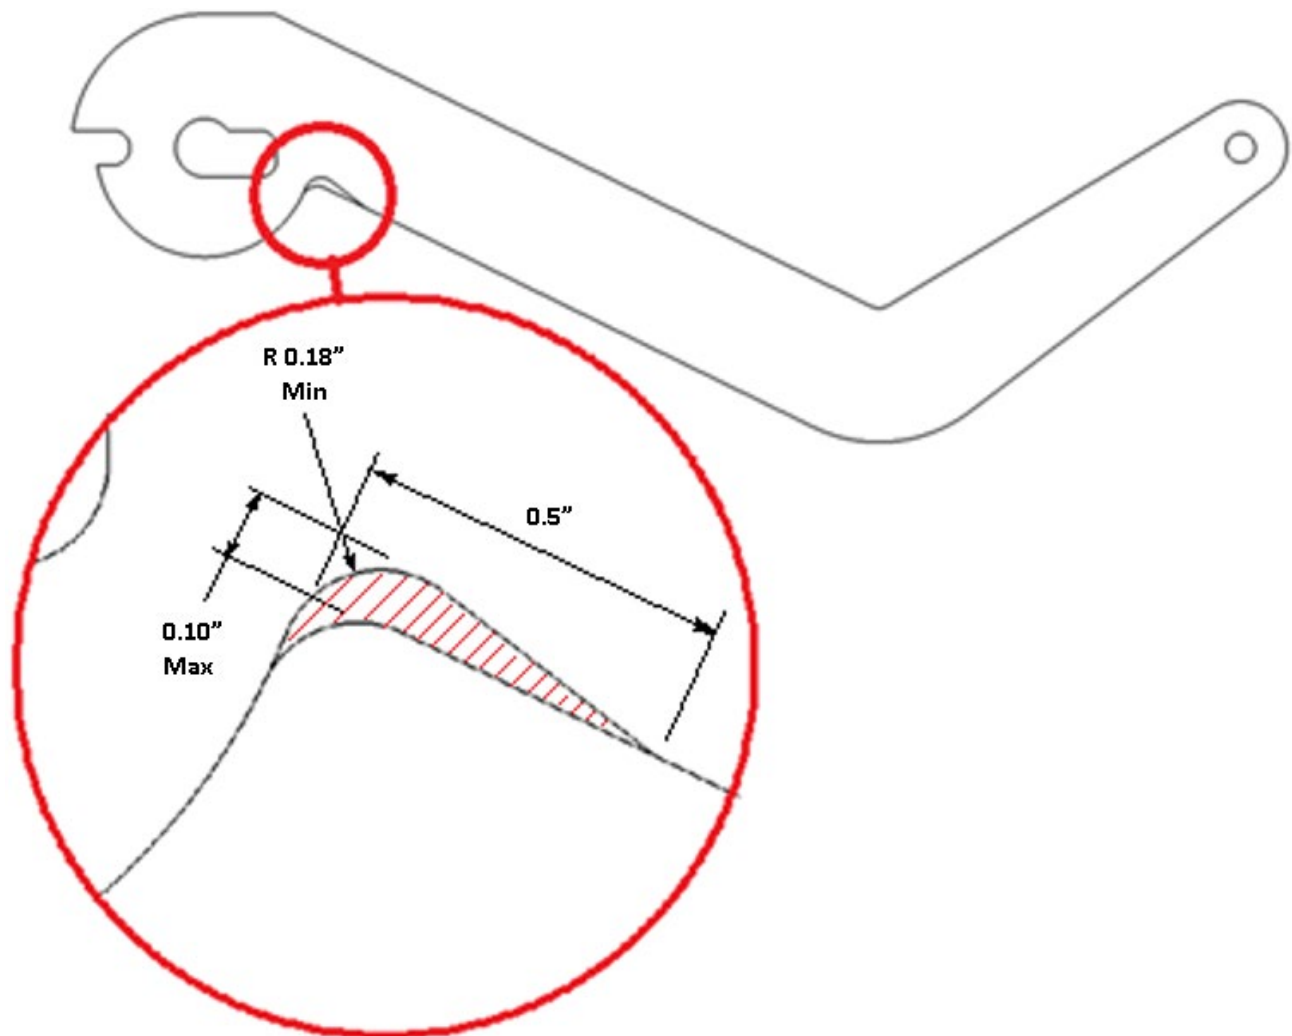

Figure 3 – Handle Modification
5.2.2 The lever may be modified as shown in Figure 3 to obtain more clearance if necessary.
5.2.2.1 Using a file or Dremel grinder or similar tool, remove material as shown in Figure 3.